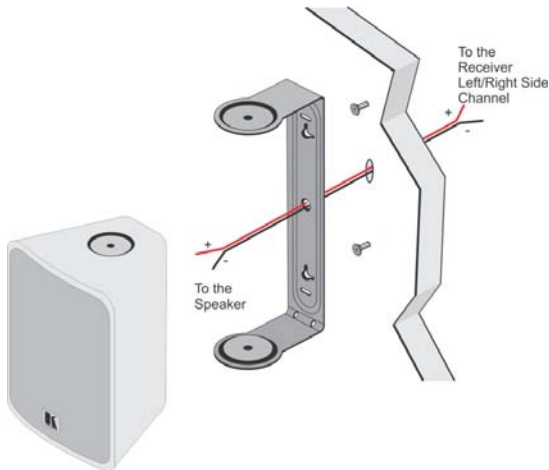

Figure 2: Installing the Speaker Wires
- Pass the speaker wires through the round hole in the mounting bracket (see Figure 2).